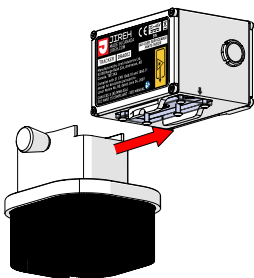
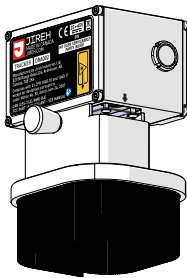

Fig. 32 - Press onto the tracker module
Fig. 33 - Attach to tracker module with screws
2. Align the shroud with the Tracker module ensuring the grooves of the shroud and Tracker line up properly (Fig. 32). Press the shroud onto the Tracker (Fig. 33).